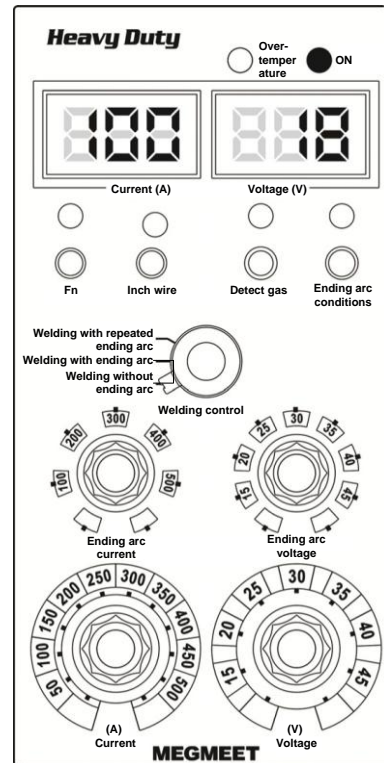

Figure 3-5 Selecting the mode of welding without ending arc
3. Perform welding after the parameters are set. See Figure 3-5.